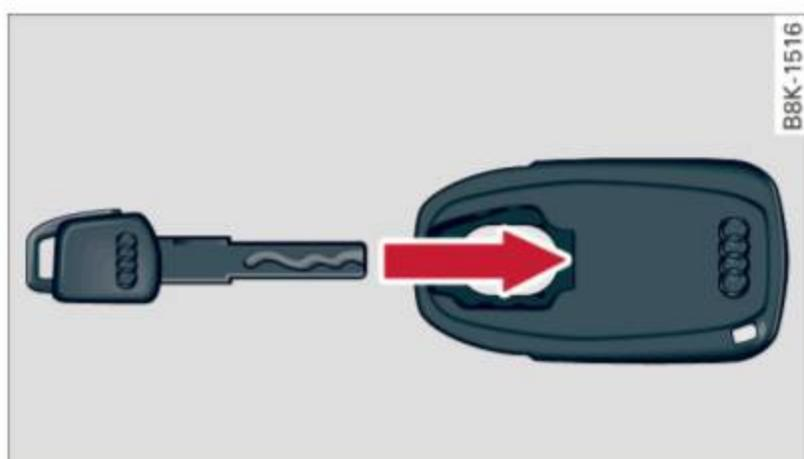

Fig. 96 Insert emergency key into the adapter
- ▶ Push the emergency key ⇒ *fig. 96* fully into the adapter. Make sure that the Audi rings are facing up.